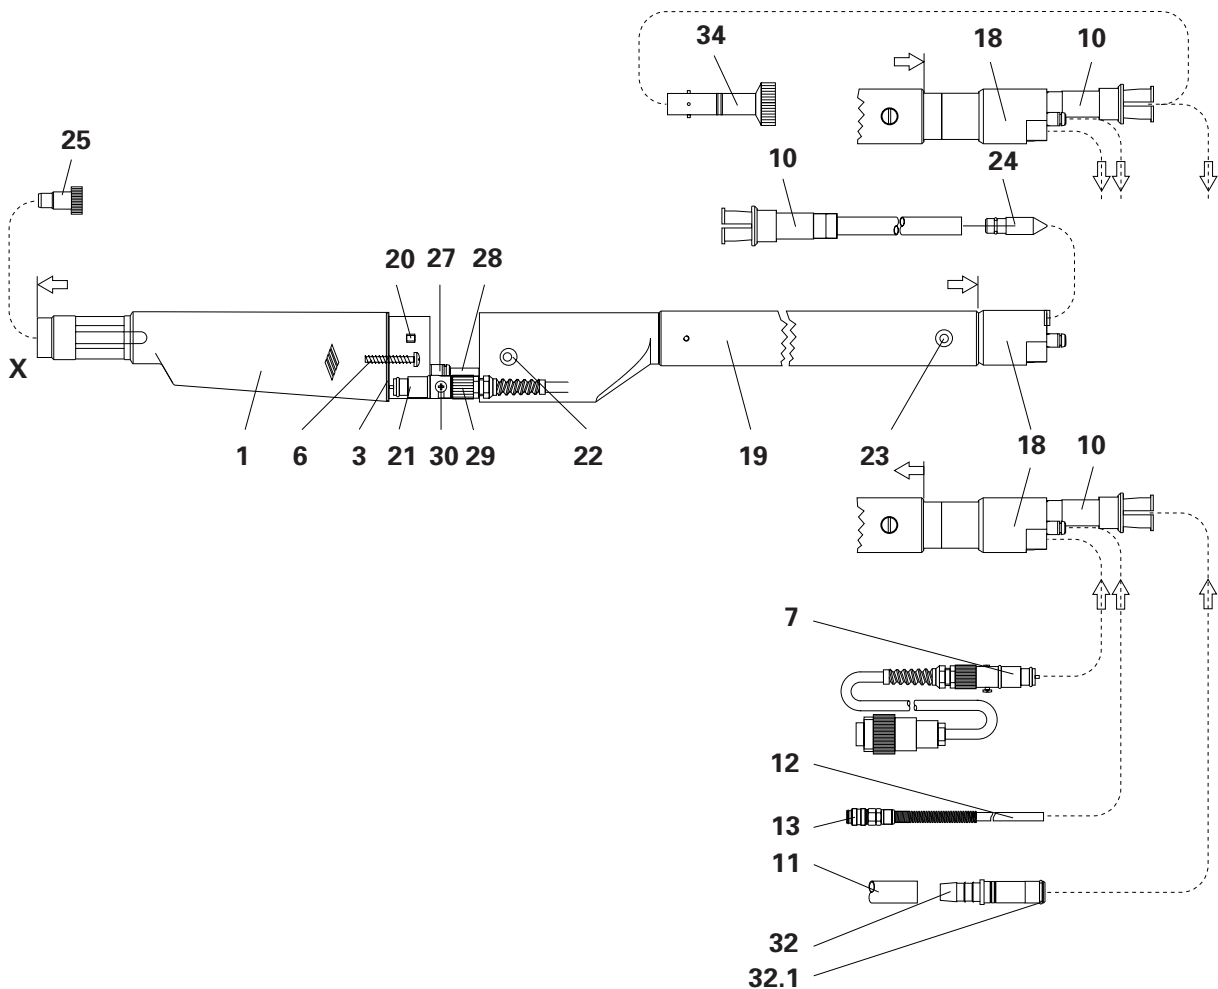

Figure 18
Place the ejector (25 - Fig. 18, page 19) in the opening **X** and push the powder tube back approximately 4-5 mm (the powder tube is flexible enough) then unscrew the tube. Be sure to use the special extractor (34 - Order No. 365 270).
1. Remove the powder hose connection (32), gun cable (7), and rinsing air hose (12) from the gun.
4. Fit the ejector (25 - Fig. 18, page 19) into the powder tube and push the powder tube back about 5 mm. The end piece (18) can be slid these 5 mm along the support tube (19).
5. Remove the powder tube (10).
6. Push the gun (1) and supporting tube (19) together and replace screws (22 - two screws) and then screw (23) to fix the supporting tube.
7. Screw in the new powder tube (10) fitted with the guide plug (24). Remove the guide plug (24) when the tube is in place.
9. Fit the powder hose (11), gun cable (7), and rinsing air hose (12) on the gun.